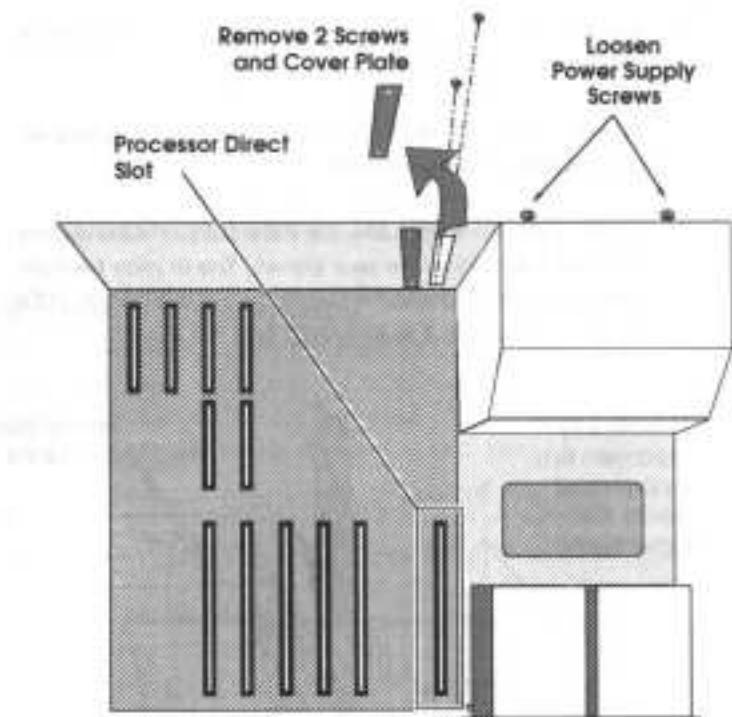

Figure 4.2 – Processor Slot location.
The A2000 G-Force '040 board uses the A2000's Processor Direct slot (see Figure 4.2). This is the multi-pin bus connector closest to the Drive Stage. There is only one way the board can fit into this slot.
- 3) Remove 2 screws and cover plate from rear panel (see Figure 4.2).
- 4) Locate the two upper screws that secure the power supply to the Amiga's rear panel. Loosen these and any other screws that prevent the rear panel from flexing (see Figure 4.2).